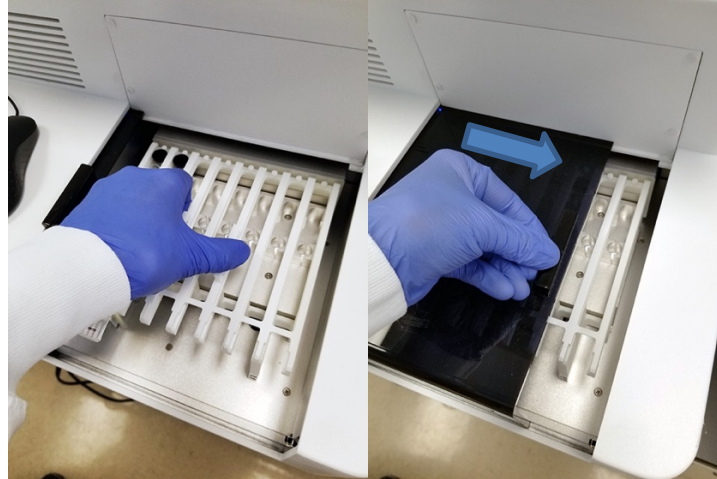

Figure 7: Inserting Rack and Closing Instrument Door
6. Insert the reagent rack, then close the sliding door as shown in Figure 7.